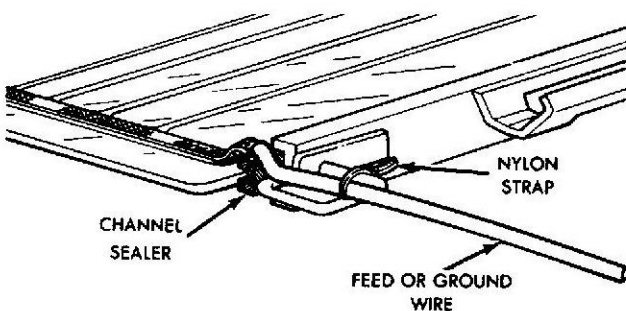

Fig. 1 Defogger Wire Interference
(1) Remove tailgate glass and channel assembly as outlined in appropriate Jeep Technical Service Manual.
(2) If wire(s) requiring repair is not broken, remove nylon strap and cut wire(s) adjacent to tailgate glass lower channel (see fig. 1).